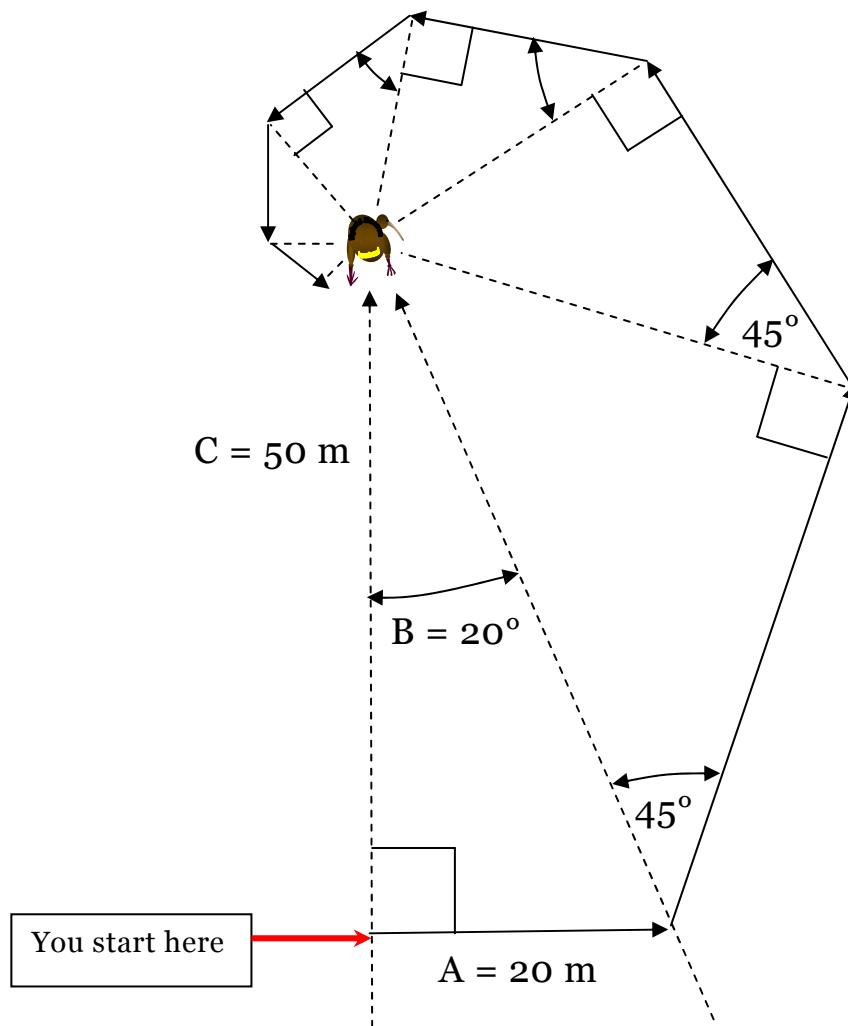

Figure 3. Diagram of 'the spiral'.
4. Continue to follow this procedure, trying to identify the most likely position of the transmitter at every turn and reducing the volume/gain on the receiver constantly so that the signal is just audible, maximising your ability to determine the direction of the transmitter. By doing this, you are slowly circling the transmitter, refining the search area and getting closer to it all the time, but never approaching the transmitter/bird directly (see Fig. 3).